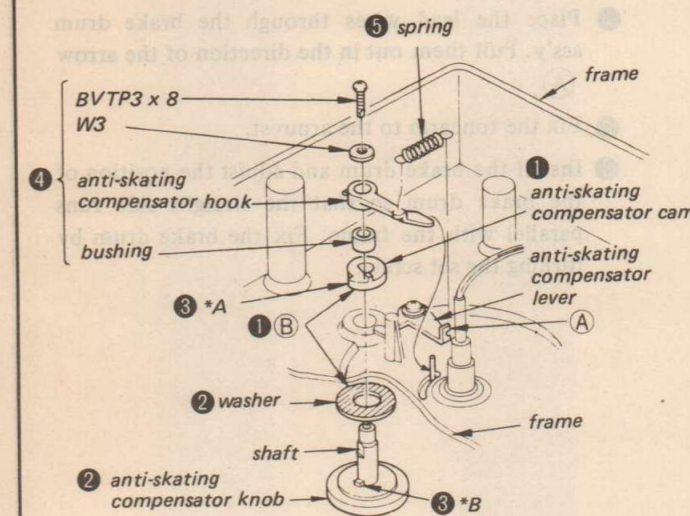

Fig. 2-1
- Smear the shaded portion (B) of the washer and the anti-skating compensator cam.
- Set the marked point (\*B) of the anti-skating compensator knob as shown in Fig. 2-1. Install it through the frame and set it with the anti-skating compensator cam. Be sure that the two marked points (\*A and \*B) coincides.
- Connect the anti-skating compensator hook and the anti-skating compensator lever with a spring and apply a bond at point (A) of the lever.